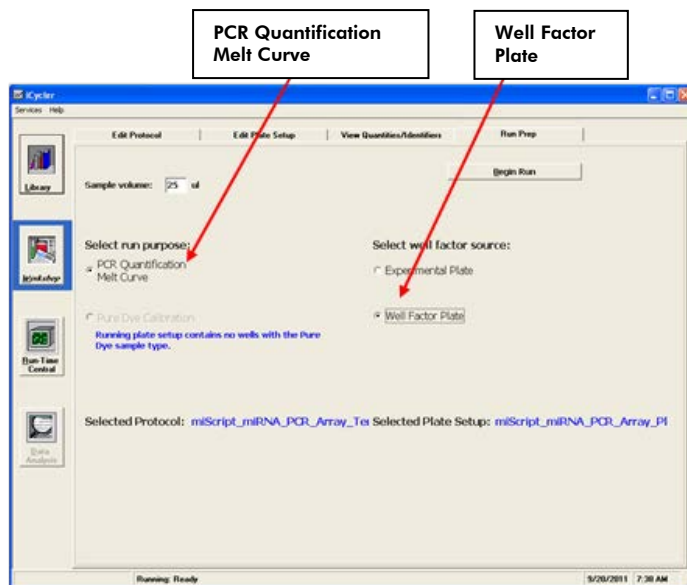

Figure 4. Plate run.
- This will lead you to the "Run Prep" tab in the "Workshop" module (see Figure 4).